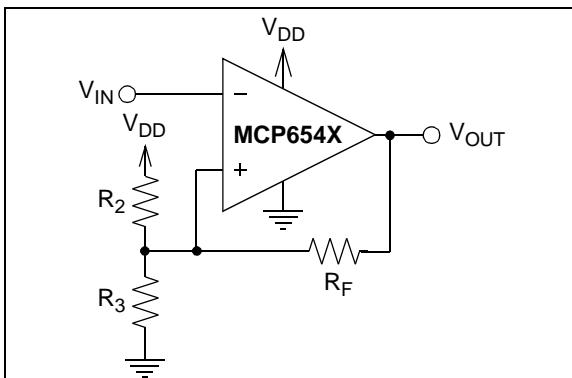
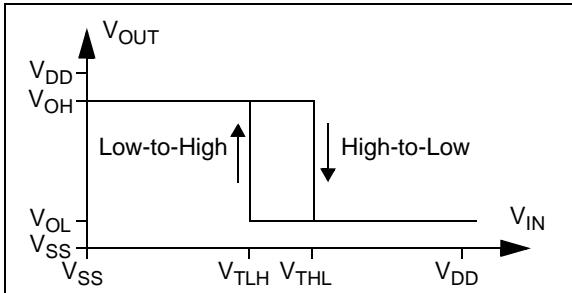
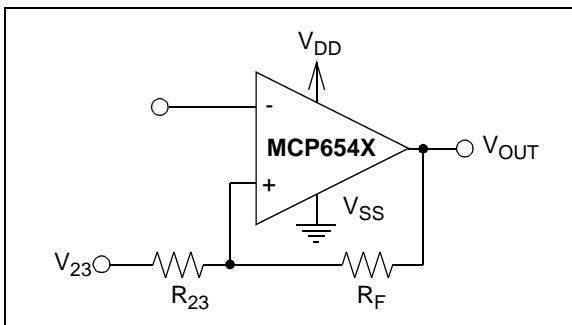

FIGURE 4-6: Inverting Circuit With Hysteresis.
FIGURE 4-7: Hysteresis Diagram for the Inverting Circuit.
FIGURE 4-8: Thevenin Equivalent Circuit.
Figure 4-6 shows an inverting circuit for single-supply using three resistors. The resulting hysteresis diagram is shown in **Figure 4-7**.
In order to determine the trip voltages (V_{THL} and V_{TLH}) for the circuit shown in **Figure 4-6**, R_2 and R_3 can be simplified to the Thevenin equivalent circuit with respect to V_{DD} , as shown in **Figure 4-8**.
1. Inverting Configuration (Figures 4-6 and 4-9):